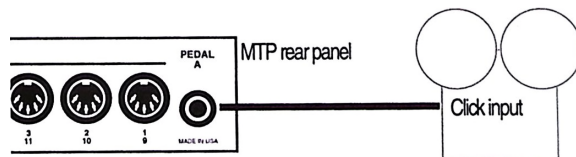

Figure 1-7: Connecting an audio click input. Note that only PEDAL A on the rear panel can serve this purpose.
7. If you would like to convert an audio click to MIDI, make the audio connection shown below in Figure 1-7.